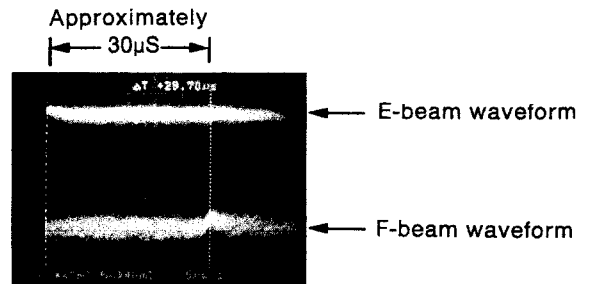

Fig. 5
5. Next, push the **PLAY** button, and set the oscilloscope in the DUAL MODE so that both **E** and **F** outputs can be seen. Set the **DISPLAY TIME** to 5 μ s. Now, adjustment is complete if the waveforms shown below in Fig. 5 (Channel 1 trigger) are obtained.